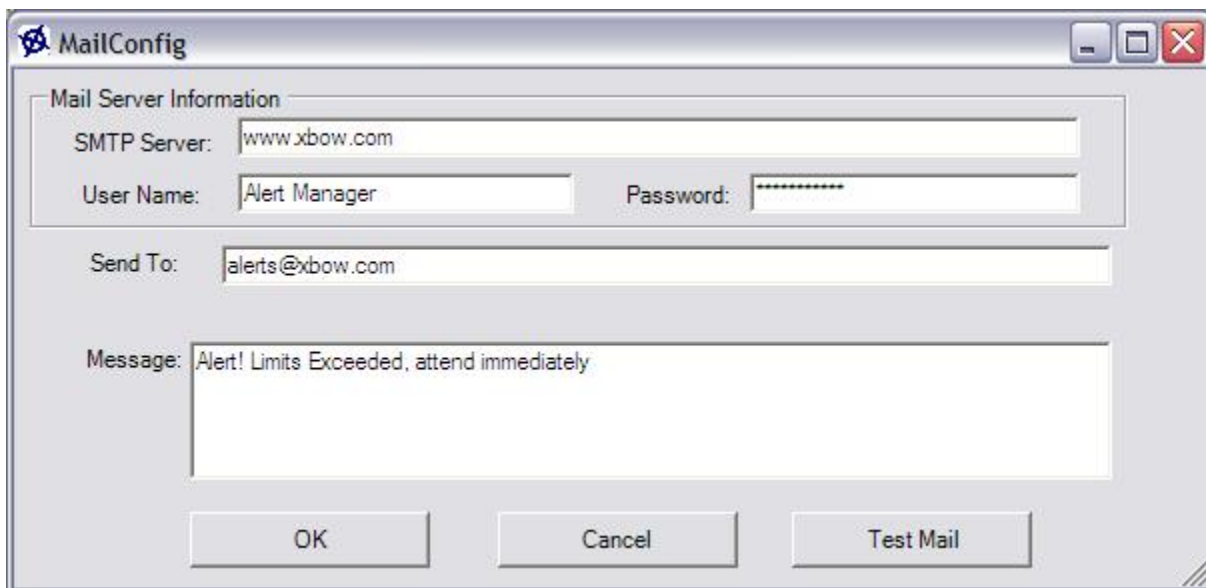

Figure 5-10. Screenshot of the Alert Mail Configuration.
1. Click from **Tools > Alerts > Alert Mail Configure...** and that will bring up the dialog box shown in Figure 5-10